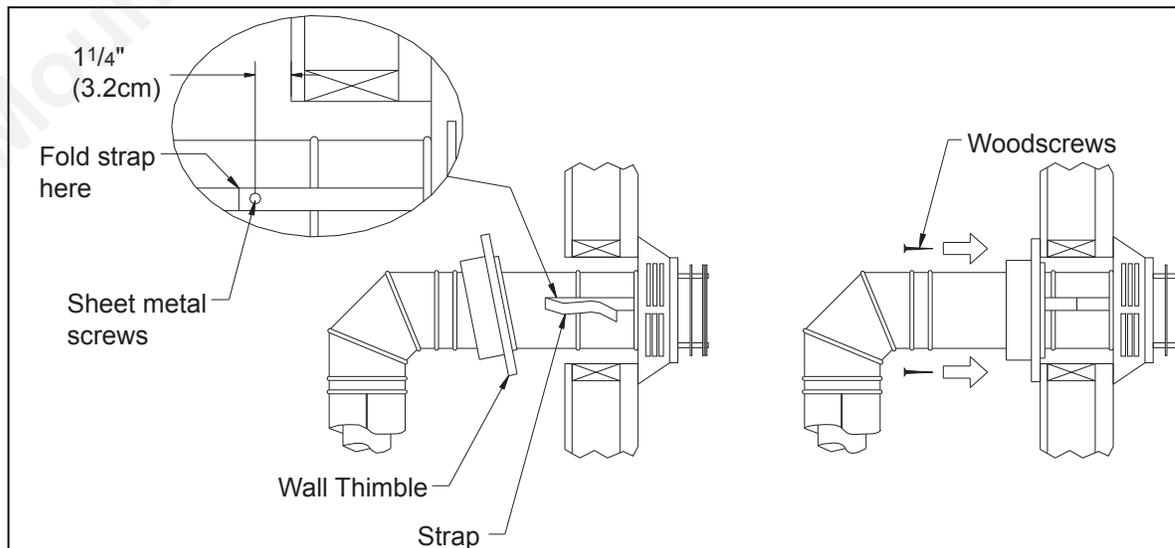

Figure 23: Installing Decorative Wall Thimble.
**STEP 6.** Slide the appliance and vent assembly towards the wall, carefully inserting the vent pipe into the cap assembly. It is important that the vent pipe extend into the vent cap a sufficient distance with a minimum of 1¼" (3.2 cm) overlap. Secure the connection between the vent cap pipe and the vent cap by attaching the two sheet metal straps extending from the vent cap assembly into the outer wall of the vent pipe. Use the two sheet metal screws provided to connect the straps to the vent pipe. Bend any remaining portion of the sheet metal straps back towards the vent cap, so the decorative wall thimble will conceal it (see left image in Figure 23).
**STEP 7.** Slide the decorative wall thimble up to the wall surface and attach with the screws provided. Apply decorative brass or chrome trim if desired (see right image in Figure 23).